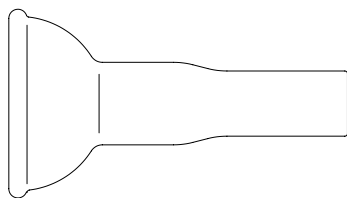

Figure 3. 12/5 glass female adapter.
The interface transfer line (11) is connected directly to the torch of the ICP-MS instrument. The torch connection adapter depends on the torch style used for a particular ICP-MS instrument. For example, ICP-MS torches with a 12/5 glass male joint can be interfaced with a corresponding female joint adapter (See Figure 3). The adapter is then simply connected to the end of the interface transfer line (11).